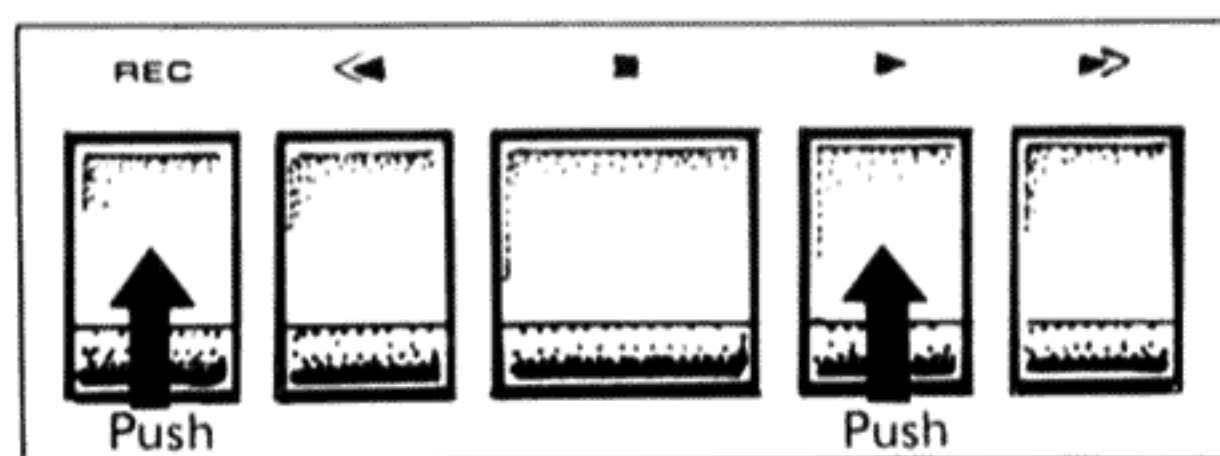

Fig. 30
10. Push the REC and ► PLAY buttons simultaneously (Fig. 30). The recording indicators light up, the tape begins to travel, and recording starts.